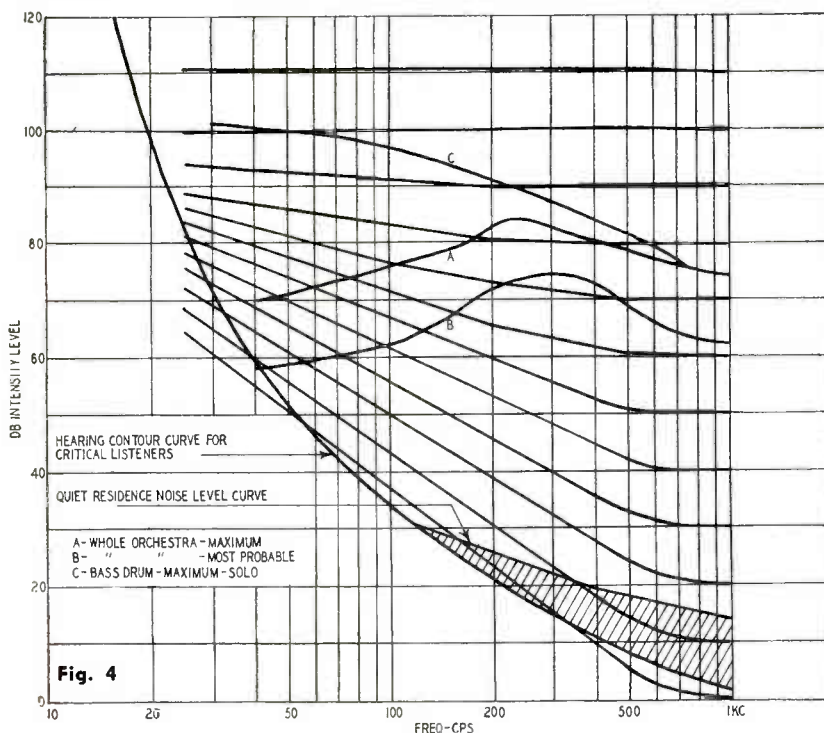
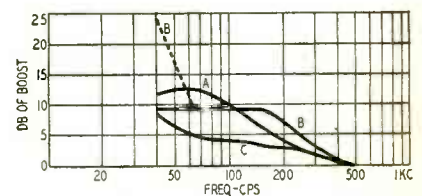

Fig. 4
Fig. 6—Compensation for playback 20 db below original performance level.
Fig. 4—Curves of maximum and probable orchestra volume (A,B), and bass-drum volume (C), superimposed on the low-frequency portions of the Fletcher-Munson equal-loudness contours. Note also hearing-contour and residence noise-level curves. See text for details.
Fig. 5—Low-frequency compensation required for playback 10 db below the original performance level in Fig. 4. Dashed line represents additional boost needed to bring very low frequencies above hearing-contour curve. See Figs. 6, 7 and 8 for curves of other levels.
Range and Power Considerations in Music Reproduction") contains some interesting curves. One series of curves shows the average distribution of sound-pressure levels for all frequencies over the audible spectrum when a typical orchestra is playing. The portions of these curves between 20 and 1,000 cycles are reproduced in Fig. 4 superimposed on the Fletcher-Munson curves of Fig. 2. Curve A represents the maximum r.m.s. values, defined as the intensity level which is exceeded only 5% of the time in the particular frequency band. Curve B represents the "most probable" or average levels, lower than the maximum levels by as much as 14 db at some frequencies. Curve C represents the maximum loudness levels for a solo bass drum.
Two other curves are superimposed on Fig. 4, both from this same technical monograph. The first is the "Hearing Contour Curve for Critical Listeners." The area below and to the left of this curve represents the region in which no sound at all is heard by a critical ear even though sound is present; for instance, a 30-cycle note at a level of 60 db or a 200-cycle note at 20 db. The other curve is the "Quiet Residence Noise-level Curve"; sounds below this level of course will not be heard at all.